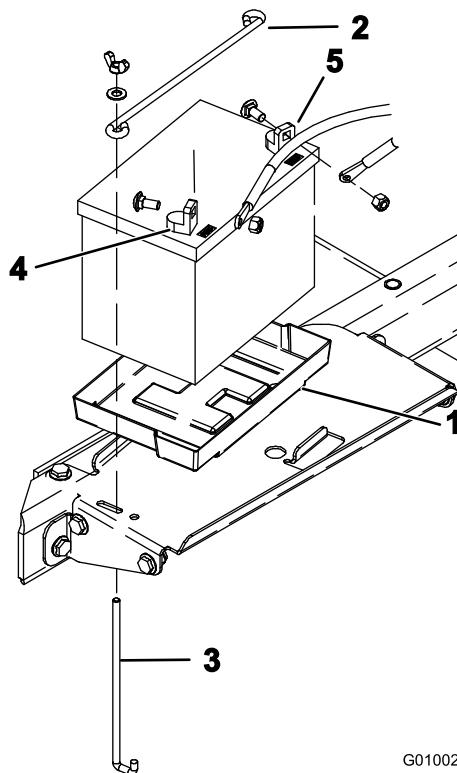

Figure 6
8. Insert the battery into the tray in the battery compartment (Figure 6) Position the battery so the terminals are to the outside.
9. Secure the battery to the compartment base with a battery rod, 2 hold down rods, 2 flat washers, and 2 wing nuts (Figure 6).
- First, secure the positive cable (red) to the positive (+) battery terminal with a carriage bolt and nut (Figure 6), then the negative cable (black) to the negative (-) terminal of the battery with a carriage bolt and nut (Figure 6). Slide the rubber boot over the positive terminal to prevent a possible short from occurring.